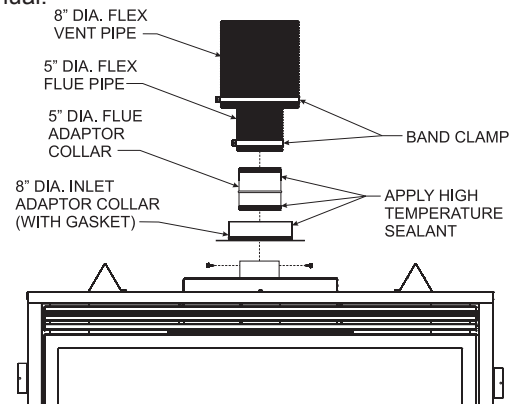

Figure 61
9. Apply sealant to the outside of the flue pipe adapter and connect to the flex flue pipe. Then insert the adapter into the fireplace flue. Secure flue adapter to the fireplace flue with a minimum of two screws provided. See Figure 61.